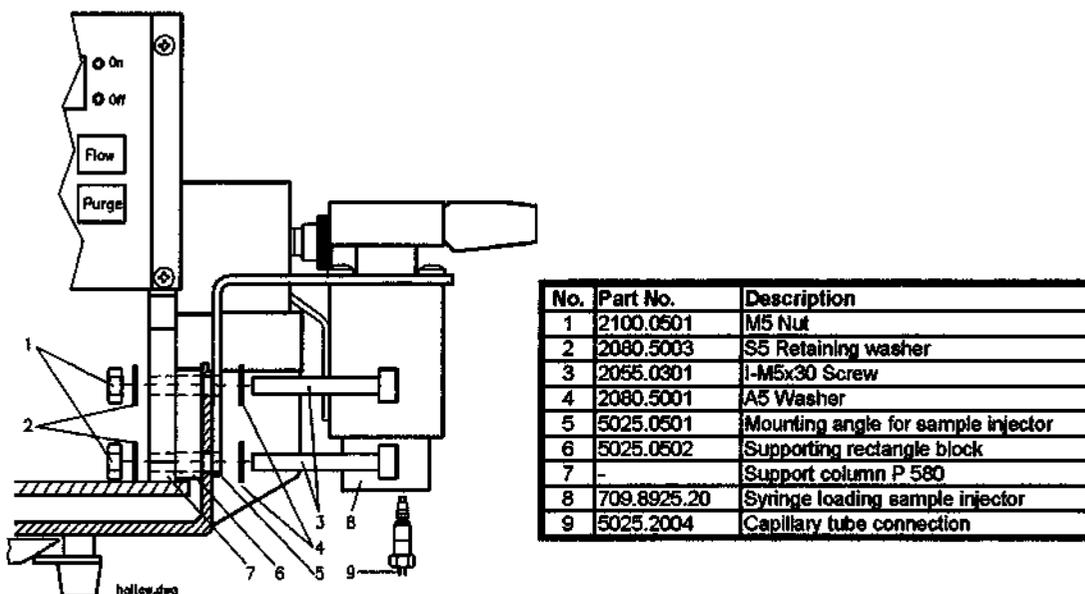

Fig. 14: Installing the optional syringe loading sample injector
- Fasten the mounting angle for the syringe loading sample injector with the two I-M5x30 screws to the housing. Use the supplied washers on either side, as shown in fig. 14. To tighten, use the supplied hex key (size 4).
Caution: Use the Rheodyne fitting set to fasten the capillary tube to the sample injection valve (see Fig. 14)!